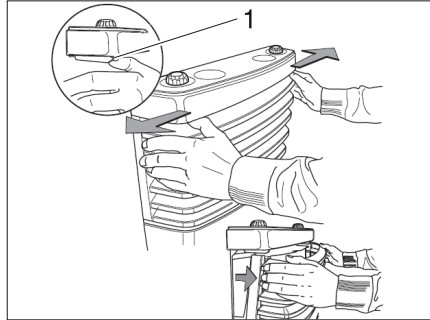

Fig. 105 Removing the heater cover
- Remove the heater cover. To do so, push the locking springs (Fig. 105,1) sideways and outwards, swivel the cover forwards and lift it out of the lower brackets.